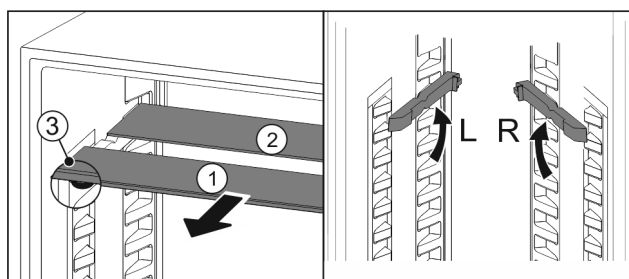

Fig. 145
- Pull the glass panels out Fig. 145 (1) from the front, one at a time.
- The glass panel Fig. 145 (1) and trim strip are at the front.
- The stops Fig. 145 (3) point down.